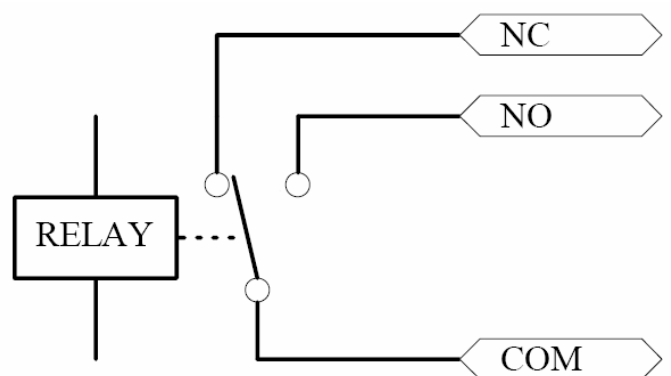

Figure 2
2. Electric lock interface (See Figure 2)
Reset Non Volatile Memory by switching of the power and placing the jumper connector onto the pins 1 & 2 as per figure 2. After switching power on remove jumper, the BC-2000 will give a beep and is now reset to factory default values.